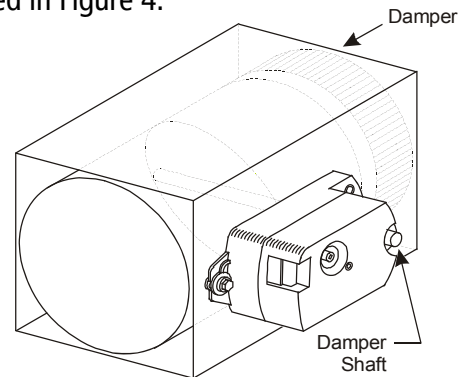

Figure 4: Mounting the Actuator onto the Damper Shaft
3. Make a note of the rotation range and direction, either Clockwise (CW) or Counterclockwise (CCW), required to close the damper.
5. Position the actuator onto the damper shaft so that the damper shaft protrudes through the actuator coupler, as illustrated in Figure 4.